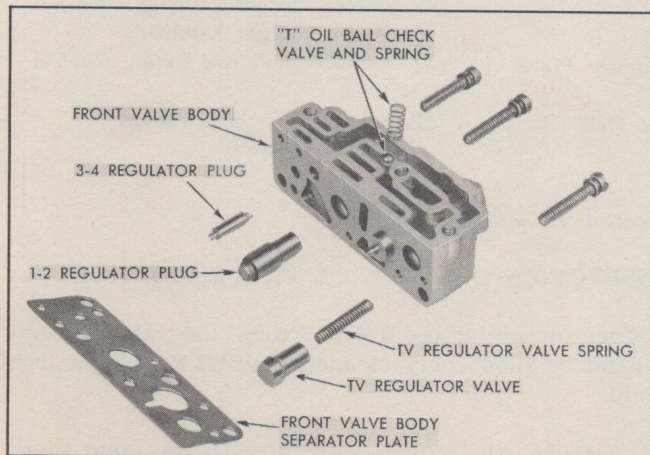

Fig. 15 Regulator Plugs, TV Regulator Valve and Spring
9. Remove three (3) screws holding front valve body assembly to inner valve body assembly and remove front valve body assembly and separator plate.
10. Remove 3-4 regulator plug, 1-2 regulator plug, TV regulator valve and spring, from front valve body (Fig. 15).